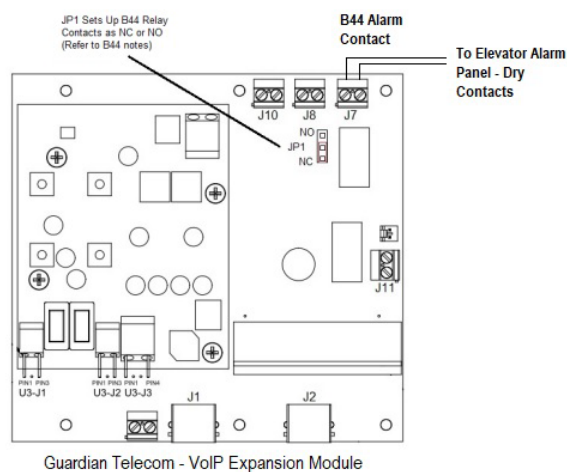

Figure 11 - Elevator Installations
Wiring: Refer to Figure 11. Using a small flat screwdriver, connect the alarm / monitor panel to the B44 Contacts (J7). The output of J7 is a dry contact type. If alternate type is required contact Guardian Sales.
- The square, green **Link** light above the Ethernet port indicates that the network connection has been established (see Figure 11). The Link light changes color to confirm the auto-negotiated baud rate: